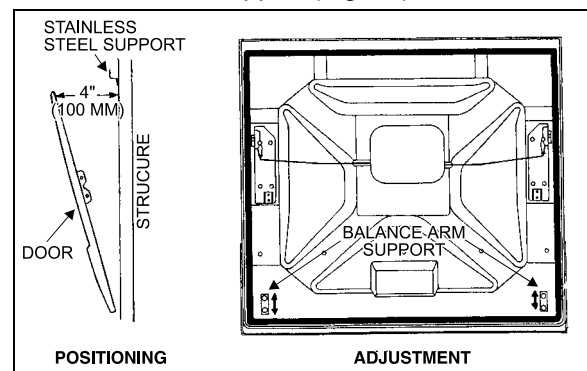

FIGURE 55: BAGGAGE COMPARTMENT DOOR 18065
- Slightly open the door, position it to obtain a gap of $4"$ (100mm) between structure and door panel upper lip, maintain door in this position while an assistant completes tightening the two bolts retaining door to each balance arm support (Fig. 55).